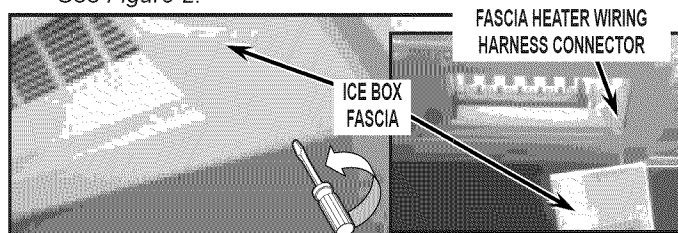

FIGURE 2
4. Remove ice box fascia using a flat head screwdriver. If your ice box assembly has a revised ice box fascia with heater, you will need to disconnect the fascia heater wiring harness. See *Figure 2*.